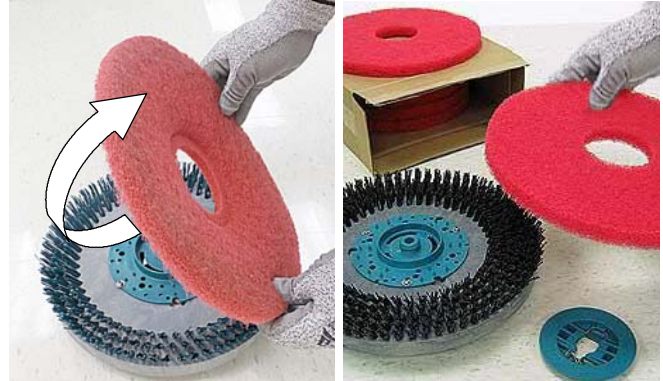

FIG. 54
4. Disk scrub head - Turn pad over or replace when worn (Figure 54).